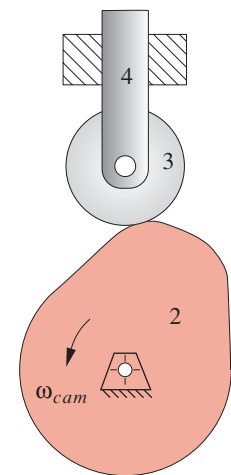

FIGURE P8-3
- 8-5 Figure P8-3 shows a cam and follower. Using graphical methods, find and sketch the equivalent fourbar linkage for this position of the cam and follower.
- *8-6 Figure P8-3 shows a cam and follower. Using graphical methods, find the pressure angle at the position shown.